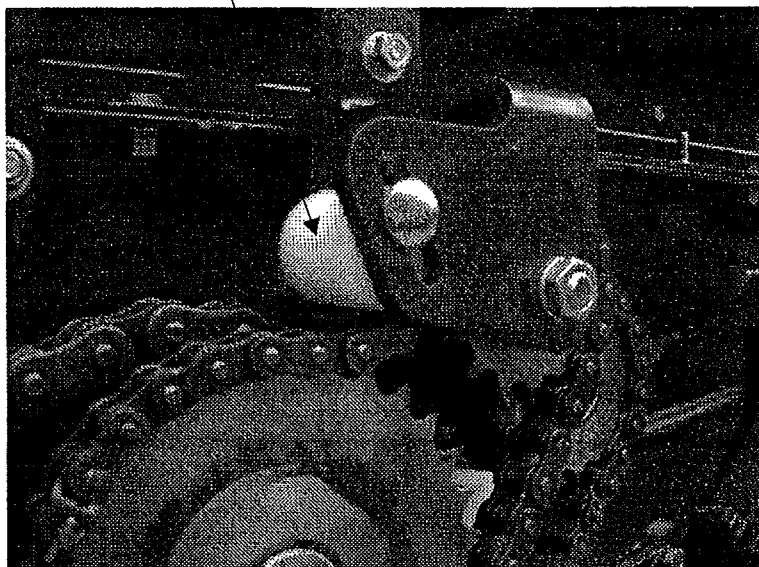

Fig 7.8
There are five positions for the handle to be set in. Before adjusting the position of the handle the nylon jockey chain tensioner mounted on the left hand handle must be slackened off. (Fig 7.8 item 1).